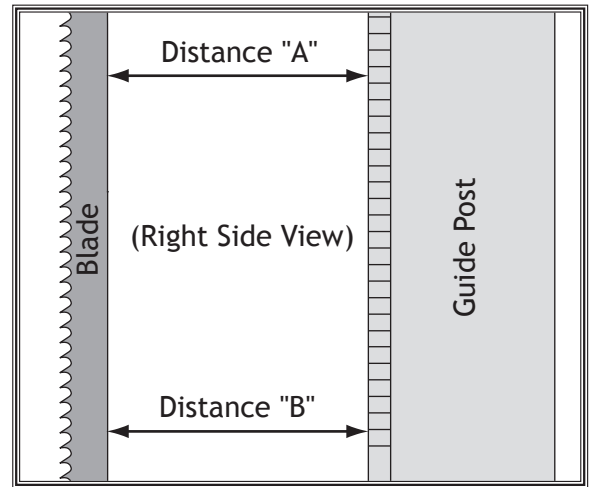

Figure 56. Example of measuring distance between rack and blade.
4. Measure the distance "A" between the top front face of the guide post rack and the back of the blade (see **Figure 56**).
5. Measure the distance "B" between the bottom front face of the guide post rack and the back of the blade (see **Figure 56**).